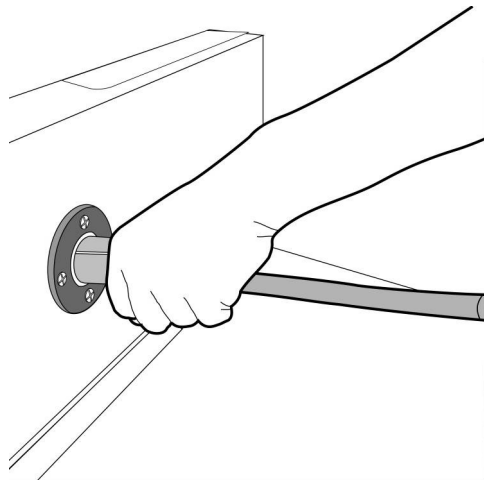

Figure 7
- DO NOT ROCK OR BEND THE PLUG. TO CONNECT THE CHARGER PLUG TO THE VEHICLE RECEPTACLE, GRASP THE PLUG HANDLE AND PUSH THE PLUG STRAIGHT INTO THE RECEPTACLE. (Figure 7).
Insert the charger DC plug into the vehicle receptacle. The charger will turn on two to ten seconds later (Figure 7). As long as the charger is allowed to shut off by itself, the batteries will be fully charged. Over charging and undercharging normally will be prevented. Batteries should be put on charge even if they have been used for only a short period (9 holes of golf or 10 minutes). The charger is automatic and will turn off when batteries are fully charged. If the charger does not seem to be operating properly, or if the batteries seem weak, contact your local SoloRider distributor/dealer.